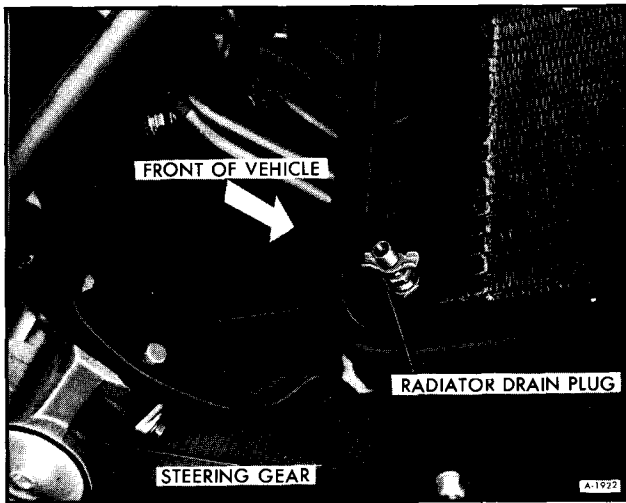

Figure 5—Radiator Drain Plug
6. Fill radiator to filler neck with coolant meeting GM Specification 1899-M (for ease and speed of filling use a 20-inch length of rubber hose and funnel to add coolant at radiator cap), to provide the required freezing and corrosion protection (at least a 50 percent solution for -34°F (-36°C)). Install radiator cap. Make certain arrow on cap lines up with overflow tube. See Figure 5.